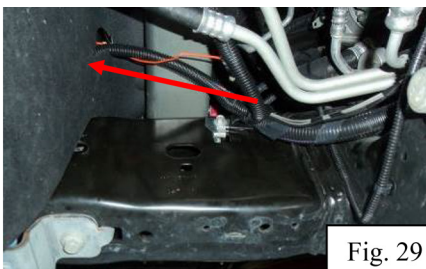

Fig. 29
- Route the orange wire through the hole in the rubber air deflector towards the coolant pump (Fig. 29). Cut the power wire (white and green wire) approximately 3" from the pump connector (Fig. 30). Insert the two ends of the power wire from the coolant pump and the orange wire into the clear 3M Scotchlock 3- way splice connector supplied (Fig. 31). Note: It is not necessary to strip the wires, and the order of the wires inserted does not matter. Once the button is depressed, the connector is difficult to reuse. Be sure the wires are inserted completely. Using slip joint pliers (or similar tool) press the button down into the connector until the button locks. The connector is filled with EG-3 sealant. Just wipe off any excess with a rag. You may wrap the connection with electrical tape, although it is not necessary. Zip tie the wires and connector to the wire loom.